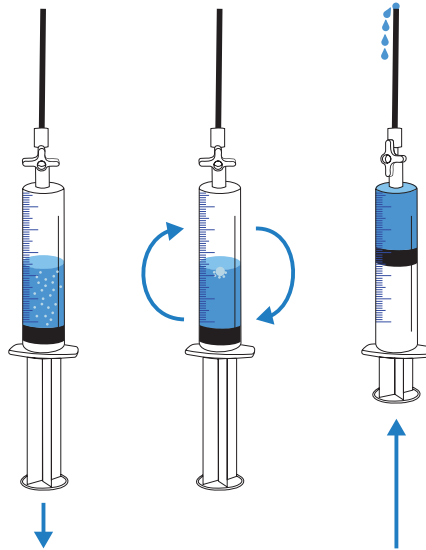

Figure 9 Degassing water in refill syringe
7. Repeat steps 3-6, 2-3 times (Figure 9).